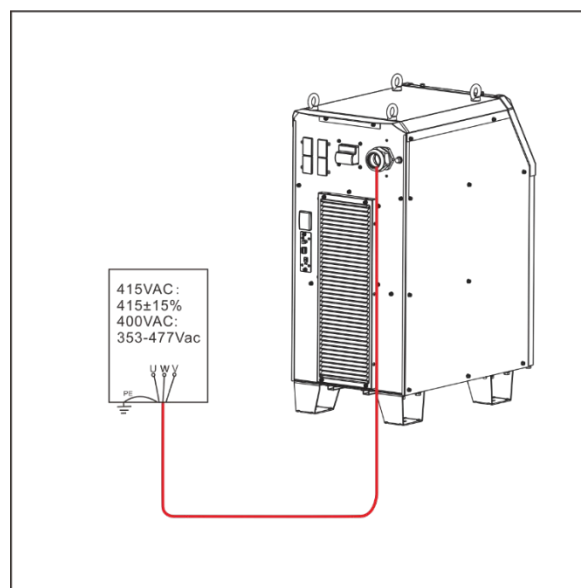

Figure 2-2 Schematic diagram of the connection on the power input side
4. Connect the other side of the input cable to the output terminal of the distribution box switch and the cable is connected. As shown in Figure 2-2.